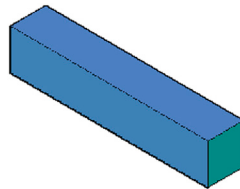

FIGURE 23.10 Completed intersect operation.
Step 2. Select both pieces and press Enter. The result is shown in Fig. 23.10; only the intersecting part remains.